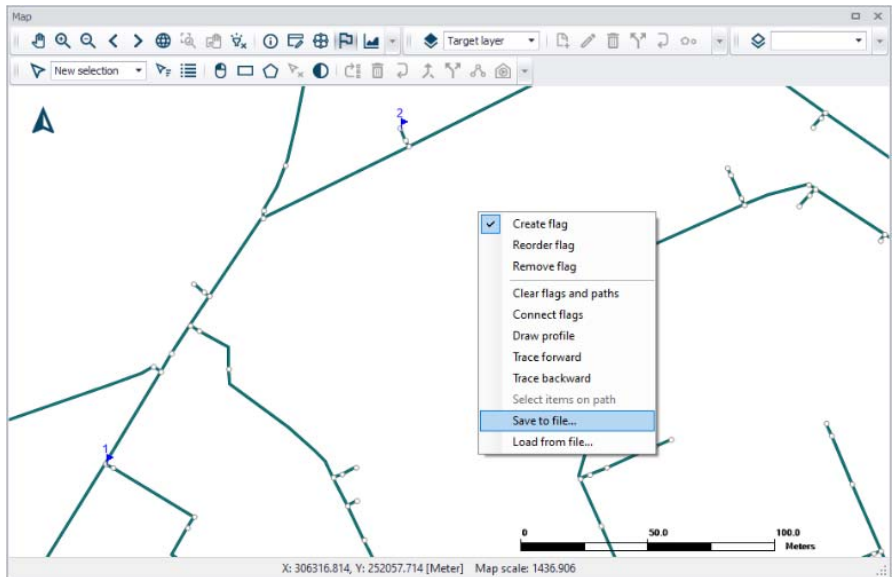

Figure 20.32 Set flags defining the path of the profile plot on the model map
- Click on the starting location for the profile path. Flags can be set on nodes, junctions, and rivers. This will place a small flag at the selected location along with the number of the flag (Figure 20.32).
- Continue setting flags on the map until the path is well-defined. The horizontal plan will then look as seen in Figure 20.32. You may save the set flag information using the ‘Save to file...’ option from the local context menu. The path information is saved to a *. PATH file, which can be loaded in another session via the ‘Load from file...’ option.